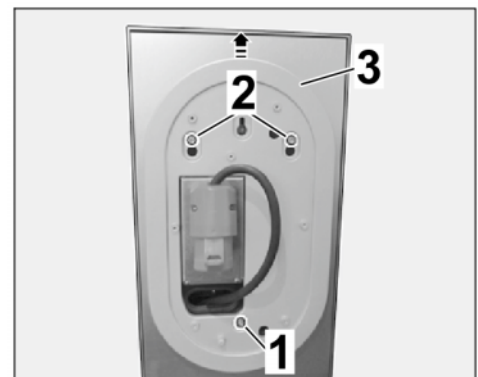

Figure 7
- 1.4.3 Lift charging dock holder ⇒ *Figure 7-3-* up by approx. 10 mm ⇒ *Figure 7-arrow-* and remove it.